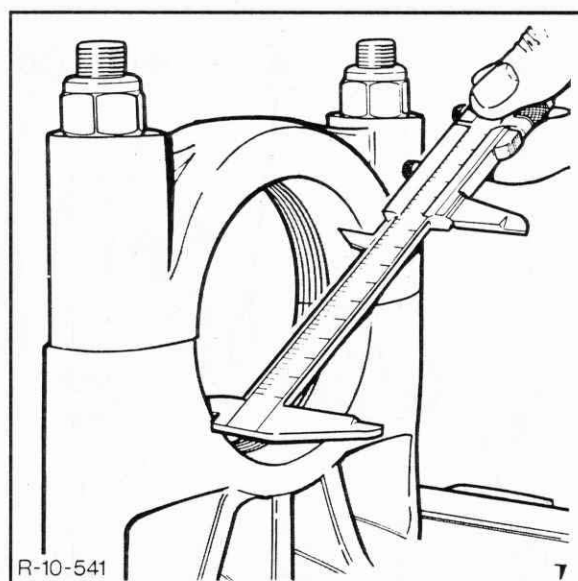

Figure 7-129
- c. Using an internal micrometer or vernier gauge, measure the side bearing bore dimension, A, shown in Figure 7-129.